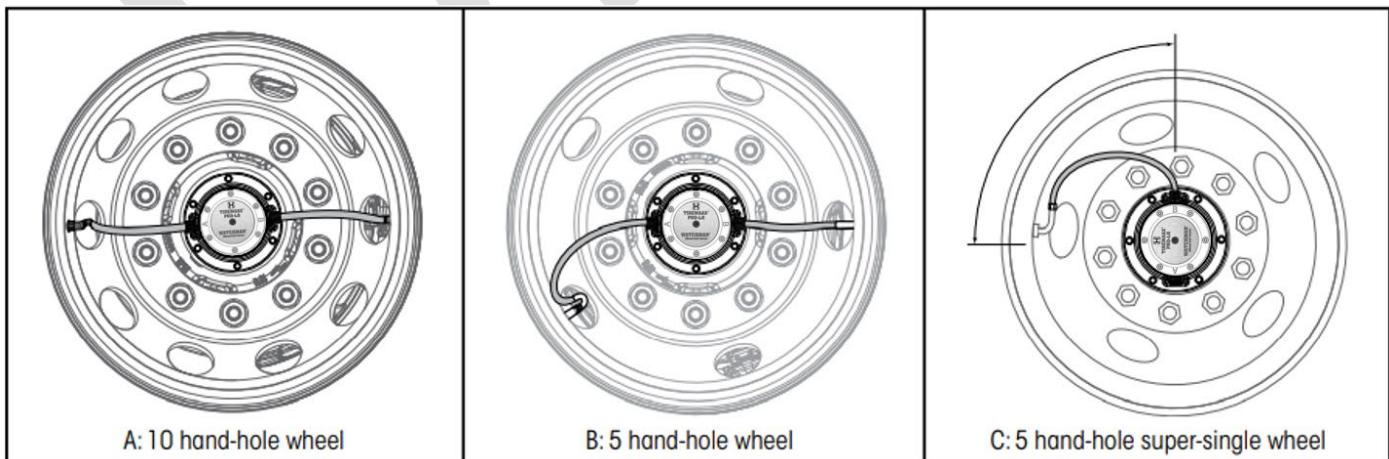

Figure 5: Properly clocking of hubcap to wheels
6. Orient hubcap for proper tire hose routing. Aligning the tire hose port so they are BETWEEN two wheel mounting studs will generally provide the best tire hose routing – Figure 5.
1. Using two lug nuts, mount wheel on hub with the rotation clocked for best tire hose placement (Figure 5 on page 8).